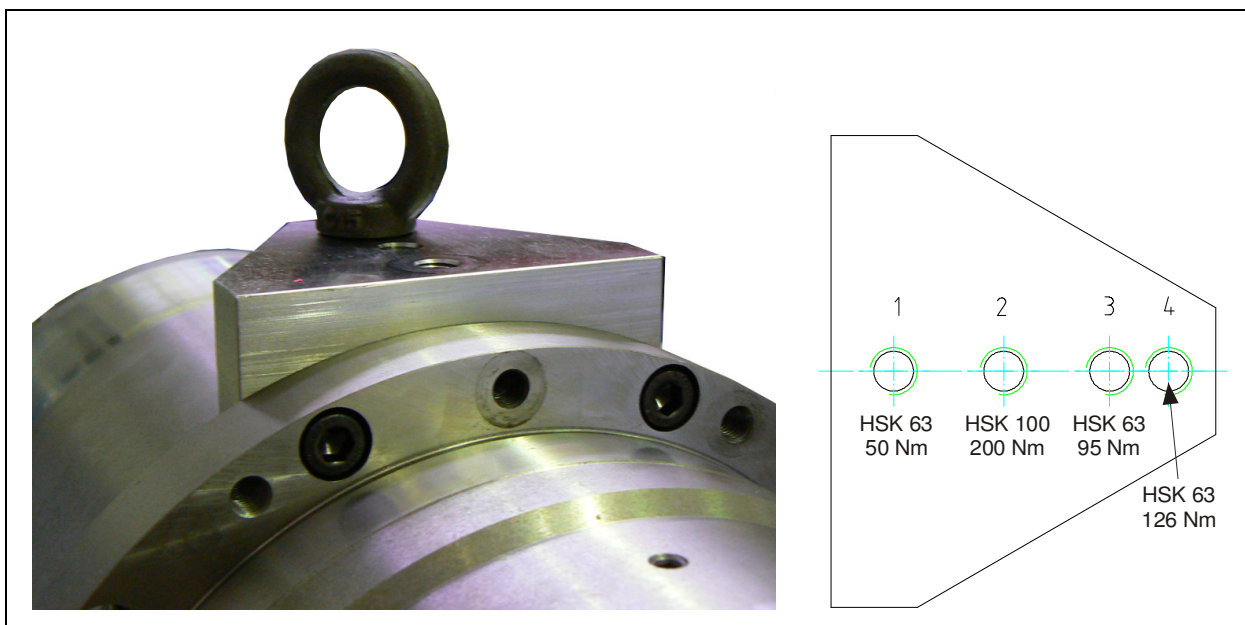

Fig. 5 Lifting device (A.1289.7956) of the motor spindle
- The eye bolt must be screwed into hole 3 (see Fig. 5):